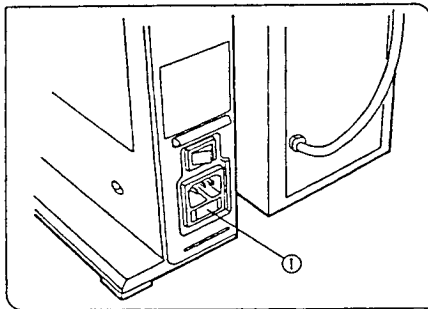

Fig. 20
(Figs. 20, 21)
1. Remove the fuse holder ① by inserting the tip of a flat-bladed screwdriver to squeeze at the left or right side of the fuse holder and pulling outward. (Fig. 20)